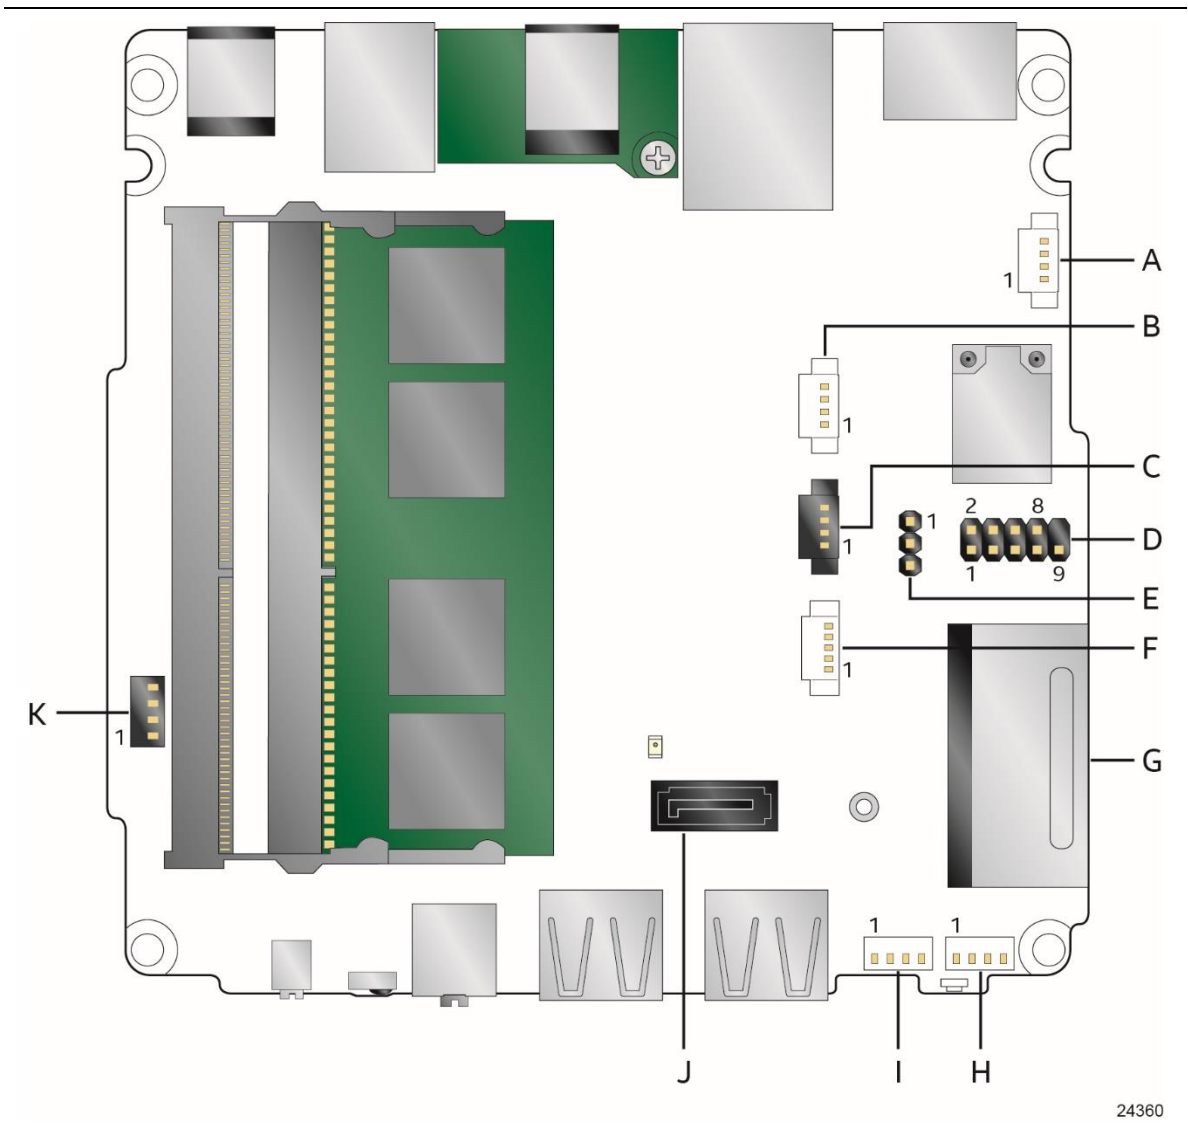

Figure 14. Connectors and Headers (Bottom)
- External CEC adaptor connected via CEC connector (see Figure 14; pinout in Table 18).
Figure 14 shows the locations of the connectors and headers on the bottom-side of the board.
Table 13 lists the connectors and headers identified in Figure 14.
Table 13. Connectors and Headers Shown in Figure 14
Item from Figure 14	Description